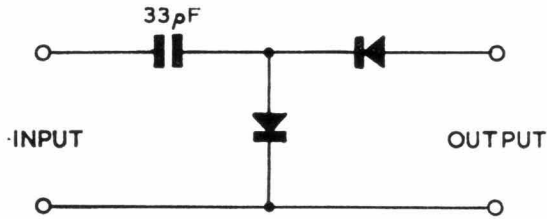

Fig. 1. Peak-to-Peak Detector.
- (iii) A peak-to-peak detector, as shown in Fig. 1.
- (2) Using the terminating network as shown in Fig. 1, connect sweep output between pin 2 of V5 and earth.
- (a) Remove the sweep from V5 and connect it as shown by Figure 1 to pin 2 of V4.